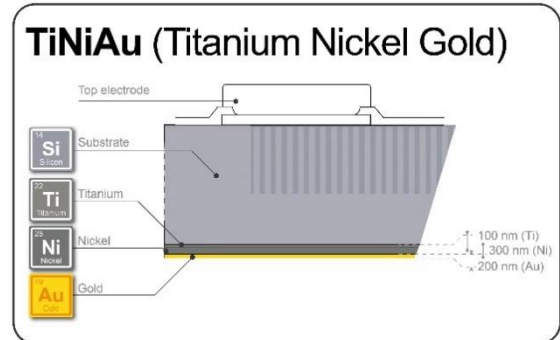

Figure 7 - Bottom electrode description
- (1) Other film frame carrier are possible on request
- (2) Au = TiW (0.3µm) / Au (3µm)
- (3) Refer to Figure7.